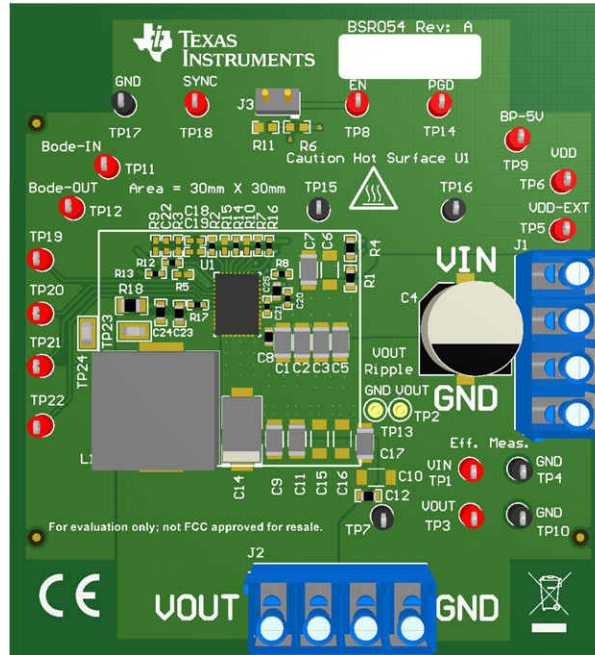

Figure 6-1. BSR054EVM Overview
Multimeters: It is recommended to use two separate multimeters Figure 6-1. One meter is used to measure V_{IN} and one to measure V_{OUT} .
Output Load: A variable electronic load is recommended for testing Figure 6-1. It must be capable of 25 A at voltages as low as 0.6 V.
1. Connect VOUT to J2 and VOUT_GND to J2 Figure 6-1.
4. Connect VIN to J1 and VIN_GND to J1 Figure 6-1.